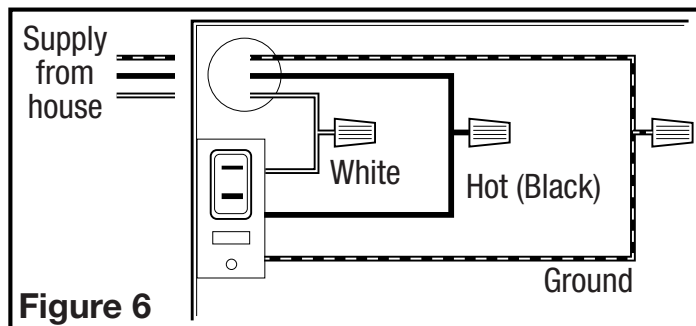

Figure 6
2. From where you have access to inside the fan's junction box, connect the White wire from the house to the White wire from the fan's receptacle. Connect the Black wire from the wall switch to the Black wire from the fan's receptacle. Connect the ground wire from the house to the Green wire from the fan's receptacle (Figure 6). Use approved methods for all connections.